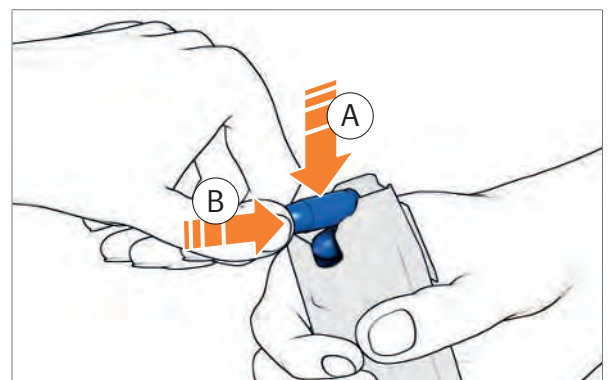

Fig. 45: Fill the magazine
2. Push cartridge under the magazine lips (Fig. 45).
3. Push cartridge to the rear as far as it will go (Fig. 45).